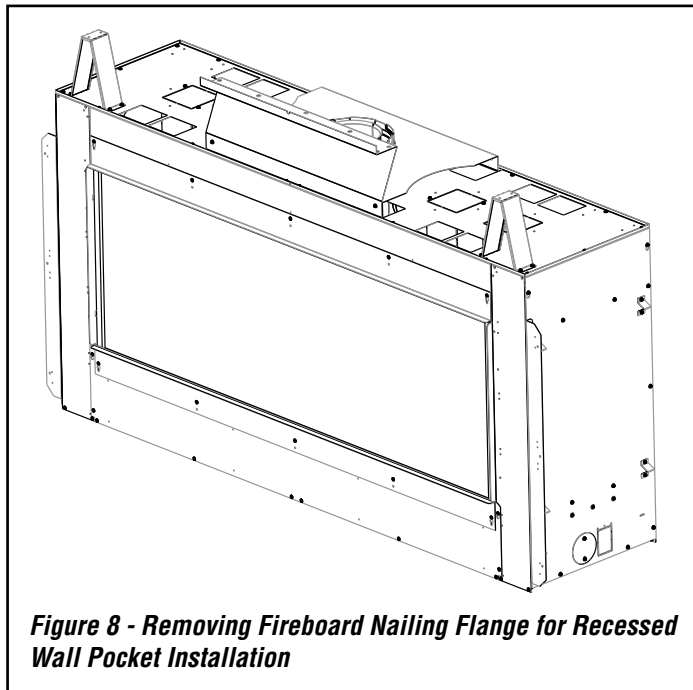

Figure 8 - Removing Fireboard Nailing Flange for Recessed Wall Pocket Installation
3. Headers may be in direct contact with the top of the nailing flange, maintaining the 11" clearance to the fireplace top, but must not be supported by them or notched to fit around them after self supporting (see **Figure 4**). All construction above the fireplace must be self-supporting. DO NOT use the fireplace for structural support. **NOTE:** On a recessed wall pocket installation, discard fireboard nailing flange leaving fireplace top spacers and heatshield (see **Figure 8, Page 15**). Header may be in direct contact with the fireplace top spacers and heatshield maintaining the 7-1/2" clearance to the fireplace top.
NOTE: On a recessed wall pocket installation, discard fireboard nailing flange leaving fireplace top spacers and heatshield (see **Figure 8**). Header may be in direct contact with the fireplace top spacers and heatshield maintaining the 7-1/2" clearance to the fireplace top.
NOTE: Remove Fireboard Nailing Flange for recessed installation (**Figure 8**).